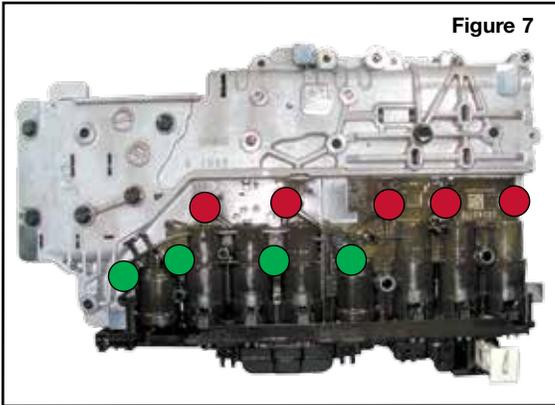

Figure 7
- e. Remove the four 10mm head and five 7mm head bolts (**Figure 7**). Remove the TEHCM and set aside for inspection, testing and cleaning.
- Install the four 10mm head and five 7mm head bolts and *hand-tighten only* (Figure 7).